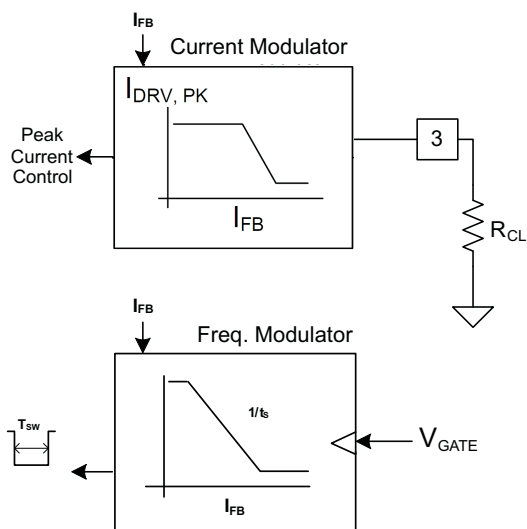

Figure 27. Modulation Control Blocks
Under normal operating conditions, the FB current commands the operating mode of the UCC28610, as shown in Figure 27 and Figure 28. The FB current commands the UCC28610 to operate the converter in one of three modes: Frequency Modulation (FM) mode, Amplitude Modulation (AM) mode, and Green Mode (GM).
The converter operates in AM mode at moderate power levels (2.5% to 22% of the peak regulated power). The FB current regulates the output voltage by modulating the amplitude of the peak HVMOSFET current from 33% to 100% of the maximum programmed value while the switching frequency is fixed at approximately 30 kHz. The UCC28610 modulates the voltage on the CL pin from 3 V to 1 V to vary the commanded peak current, as shown in Figure 27 and Figure 28.